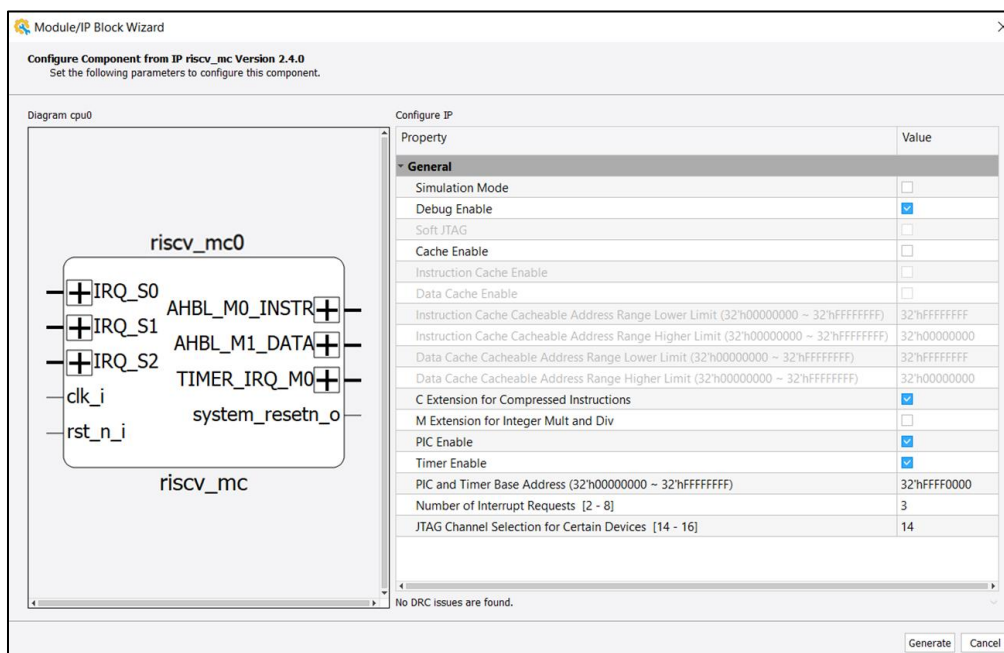

Figure 3.11. RISC-V MC Component Parameter Configuration
4. In the **Module/IP Block Wizard**, set the parameters as shown in Figure 3.11.